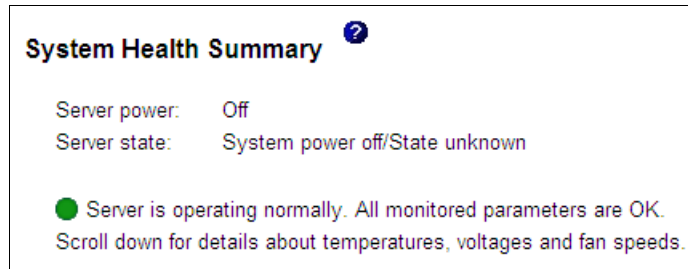

Figure 6-68 IMM System Health Summary
13. Wait approximately 10 minutes to power on the x3850 X5. There cannot be any LEDs lit on the Light Path panel. The System Health Status in the IMM web interface looks like Figure 6-68 on page 284.